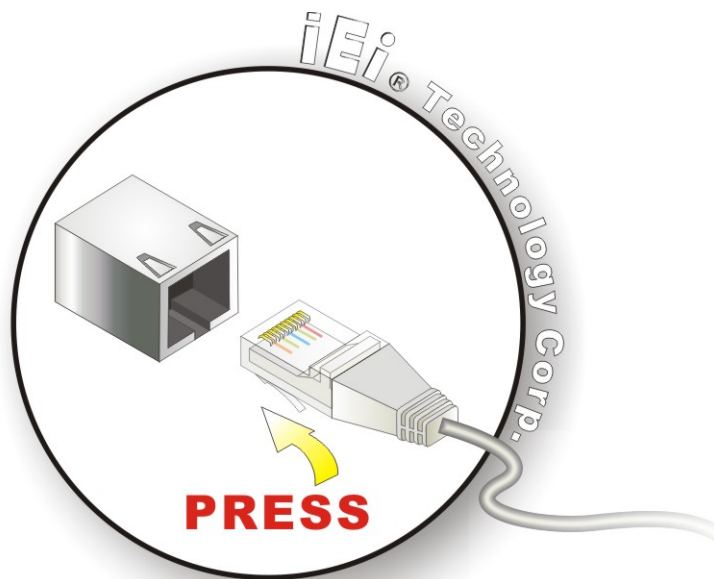

Figure 4-17: LAN Connection
Step 2: **Align the connectors.** Align the RJ-45 connector on the LAN cable with one of the RJ-45 connectors on the WAFER-945GSELVDS2. See **Figure 4-17**.